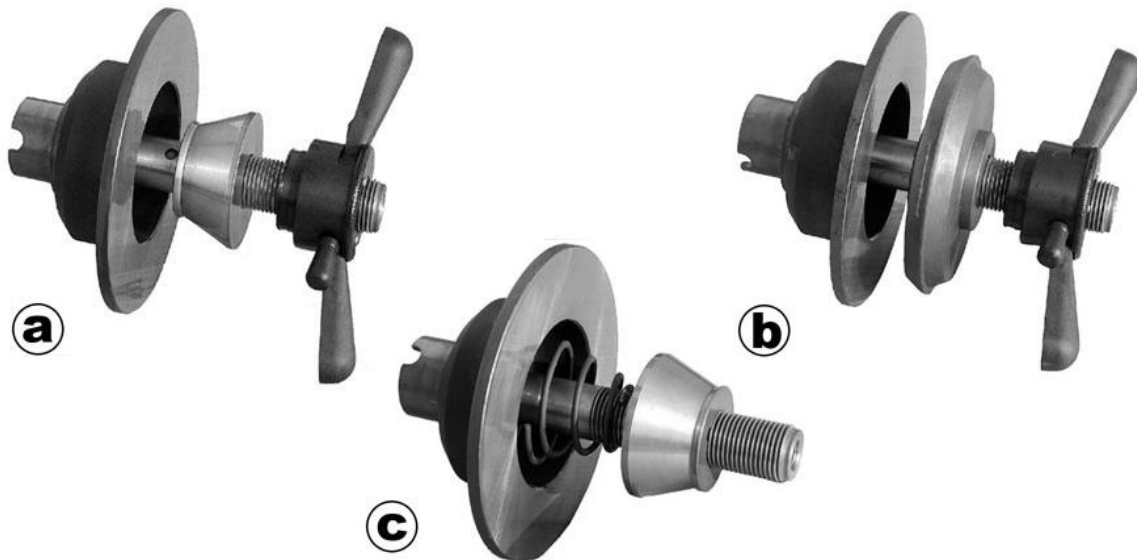

Fig. 5.9 Various methods of using the holder and its equipment.
Construction and equipment of the holder make it possible to mount wheels with different rim shapes and different central hole diameters which is shown in figure 5.9. If using one of the centring cones (fig. 5.3) the wheel should be mounted from the outer side like in fig. 5.9a or 5.9b, without using nut clamp (5) nor cone spring (4) (fig. 5.3). If due to the rim mounted the cone is to be placed from the inner side, the nut clamp (6) should be put onto the clamp nut (2) (fig. 5.11) and spring with a matching cone slid to the handle in such manner that bigger basis is facing the machine, as presented in fig. 5.9c. Lastly, slide the wheel onto the cone and screw it firmly to the holder using